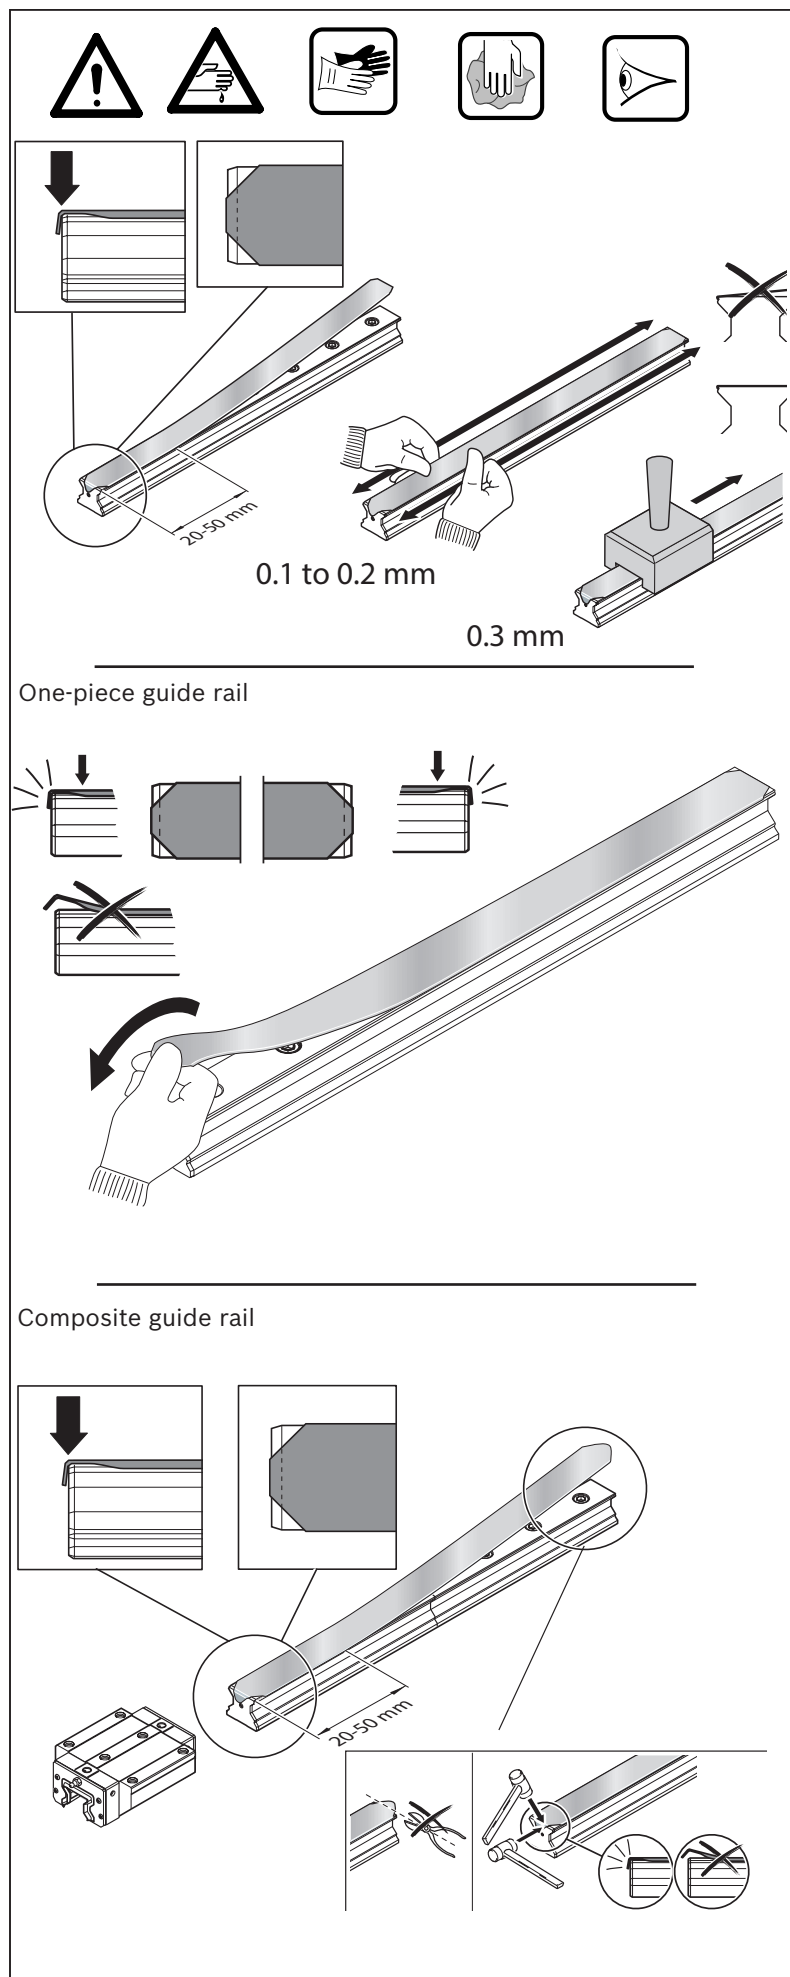

Fig. 35: Mounting Rail Seal
- ▶ If necessary, shorten the end of the seal just enough to expose the tapped hole on the rail end face! ➔ Fig. 35